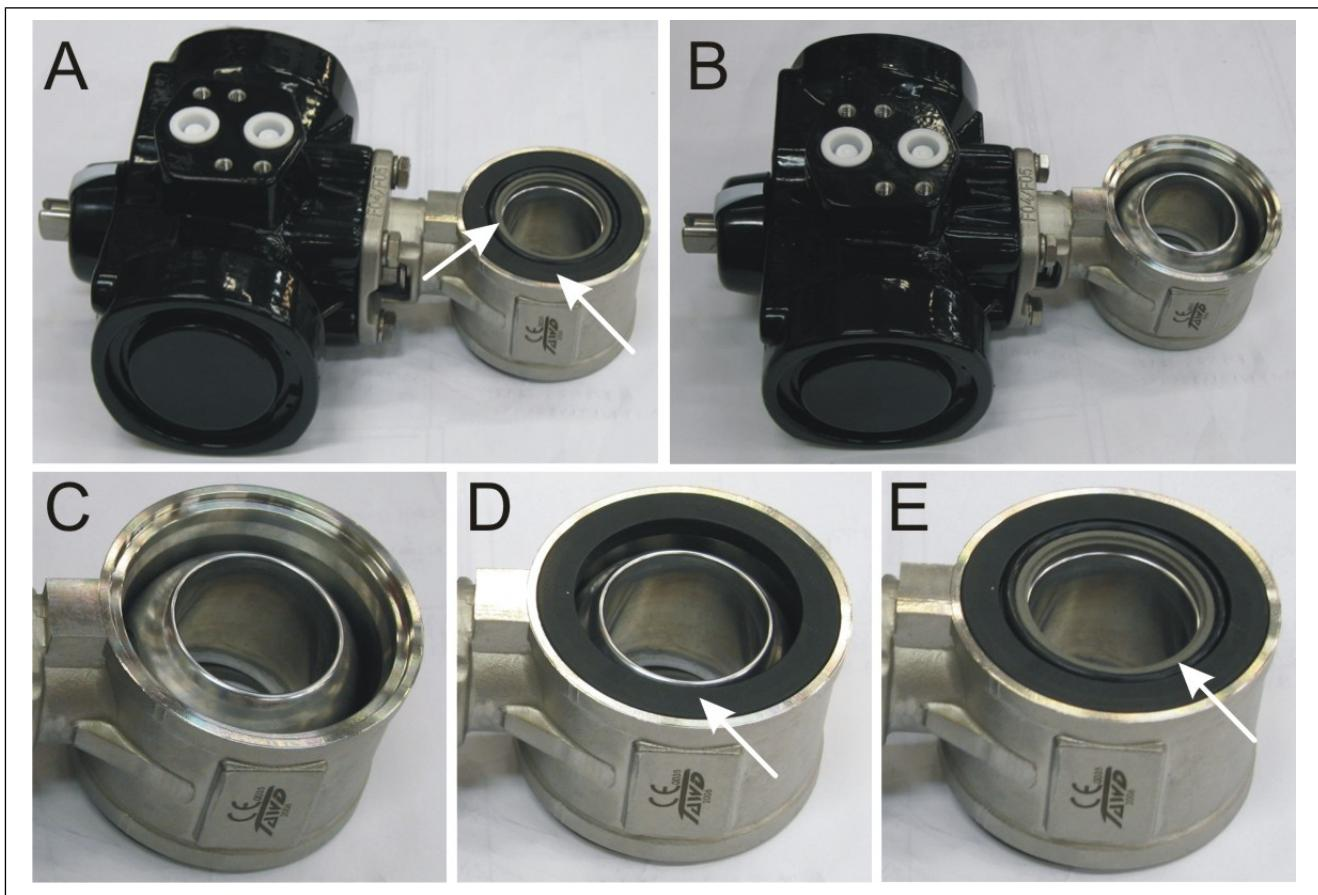

Fig. 13. Replacing the seals.
1. Place the valve on a clean surface. Remove the O-ring from the center of the valve seat, also remove the seal from the groove (Fig. 13, steps A & B).